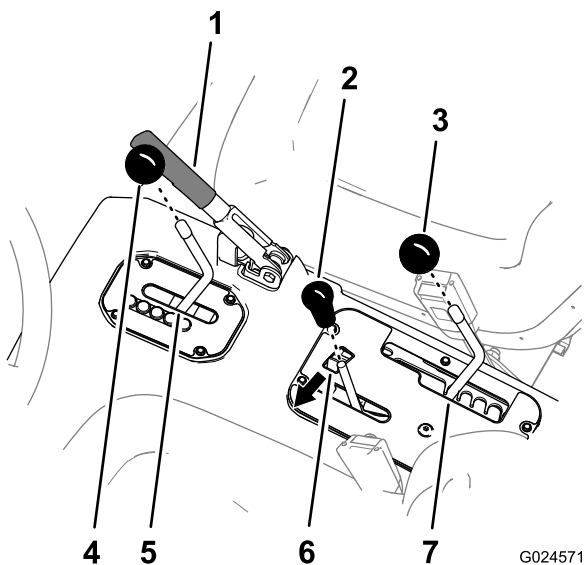

Figure 4
1. Remove all knobs from console levers and from the transmission lever by rotating the knobs counterclockwise (Figure 4).